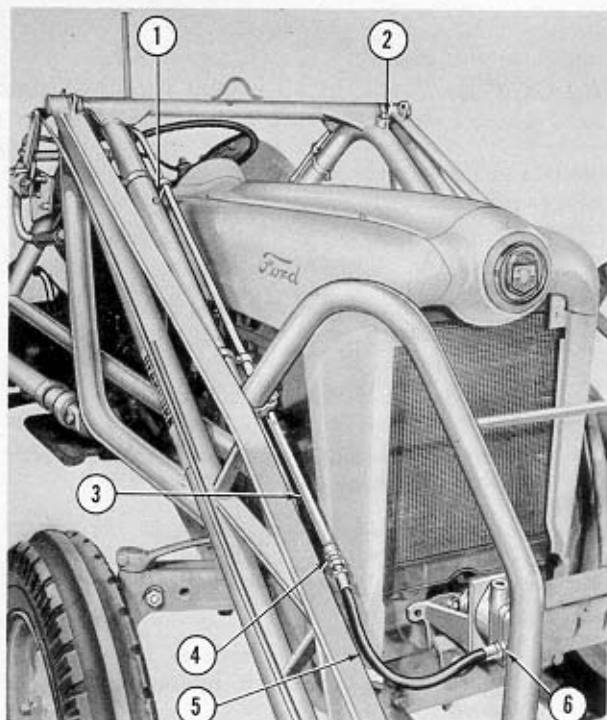

Figure 9
- a. Install a  $\frac{1}{2}$ " to  $\frac{3}{8}$ " reducer bushing (6), Figure 9, on the loader hydraulic pump as shown.
- e. Turn the externally threaded end of the hose (5), Figure 9, into the reducer (6), in the hydraulic pump. Then, attach the internally threaded coupling to the high pressure pipe (3) as shown at (4), Figure 9.
- b. Remove the 1" pipe plug (2), Figure 9.